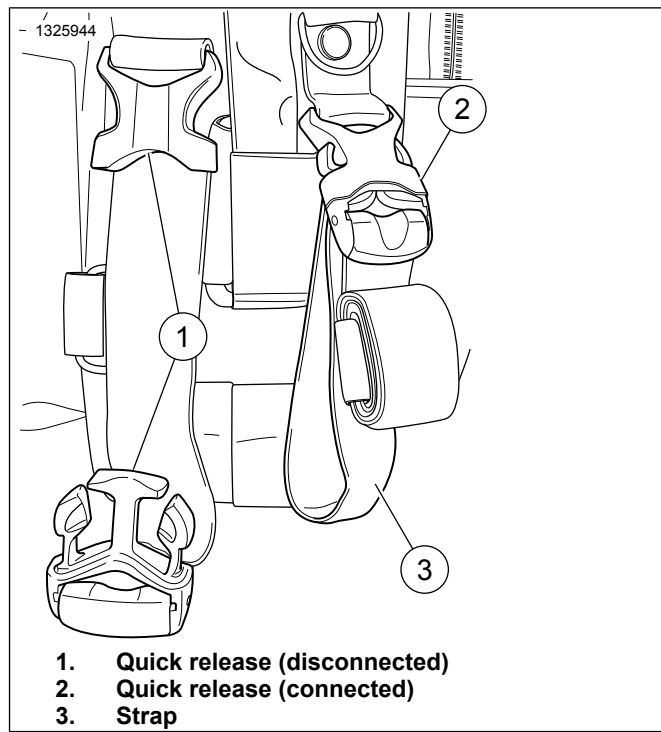

Figure 2. Quick Release Buckle
1. See Figure 2. Disconnect quick release buckles and clasps.